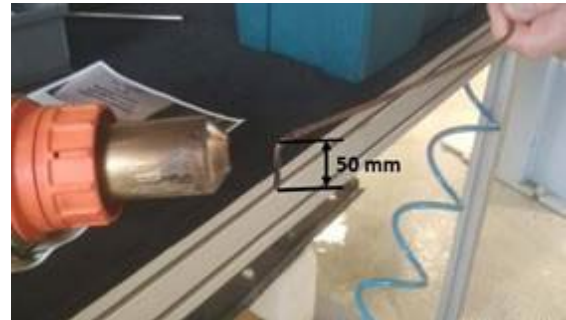

Figure 8. Heating the fabricated tool.
8. From a steel rod 8mm – 10mm in diameter fabricate a tool as shown in figure 8. Bend the end of it in an 'L' shape 50mm long.